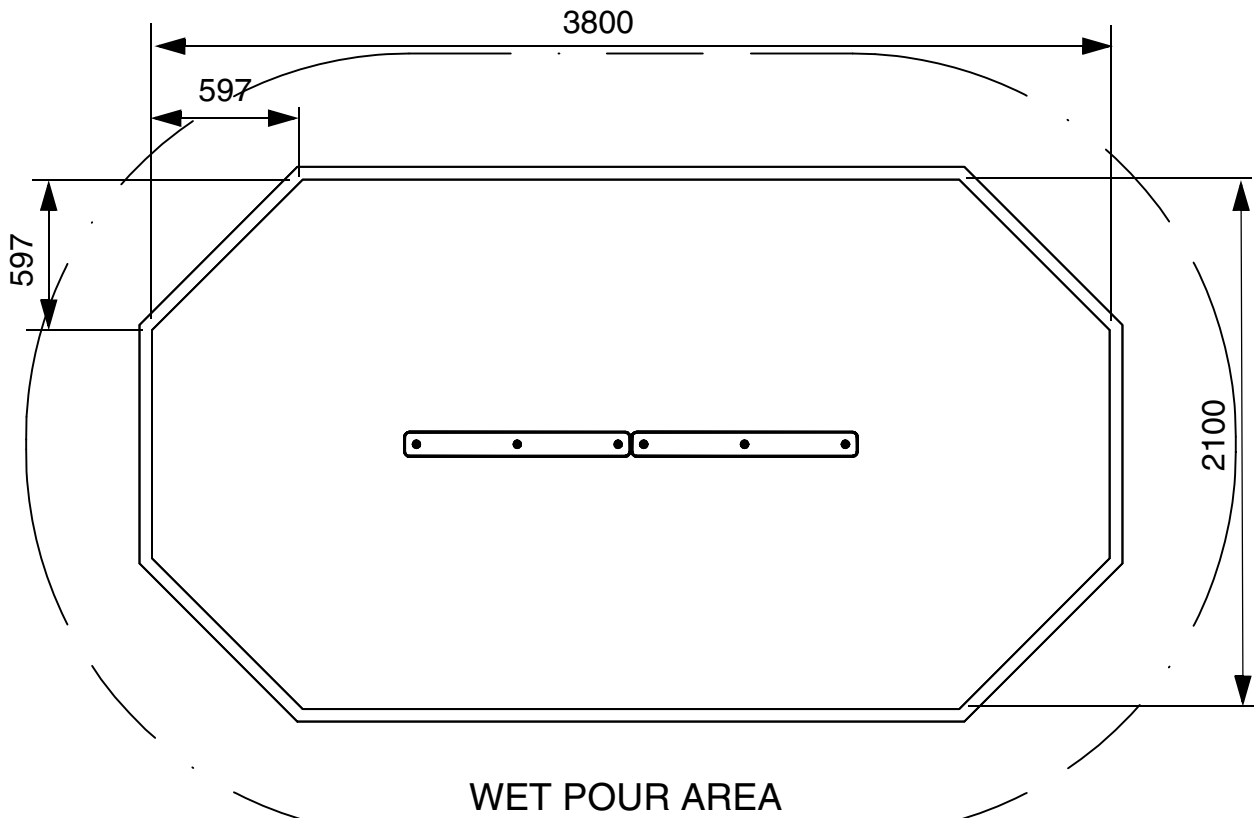

FIG.3
- Secure support feet (item 5) to beam (item 2) using 2 off M10 x 30 lg Resistorx bolts (item 3) and M10 washers (item 4) per foot. FIG.3
- x) After concrete has completely cured secure balance beam treads (item 1) to top of beam (item 2) using 6 off M10 x 30 lg Resistorx bolts (item 3) and M10 washers (item 4). FIG.3